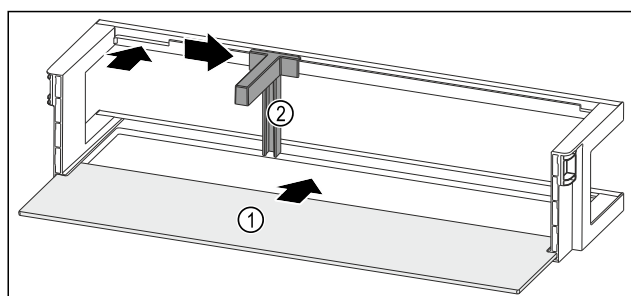

Fig. 172 Door rack with shelf
- Push the shelf Fig. 172 (1) into the side recesses.
- Insert the bottle holder Fig. 172 (2) in the recess.
- Push the bottle holder Fig. 172 (2) to the desired position to the side.